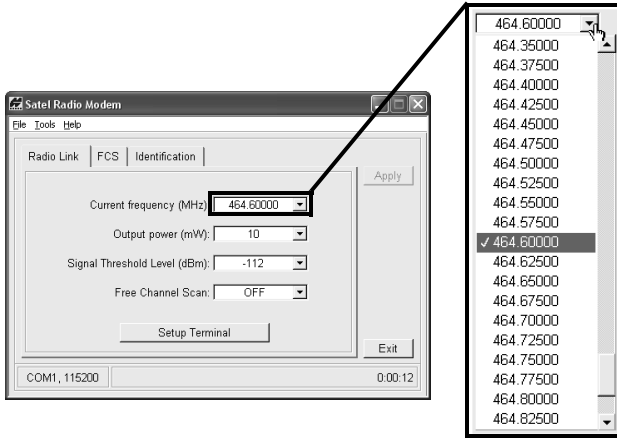

Figure 2-21. Select Current Frequency
2. Select a frequency from the list (Figure 2-21 on page 2-30). Use the same frequency for both receivers.